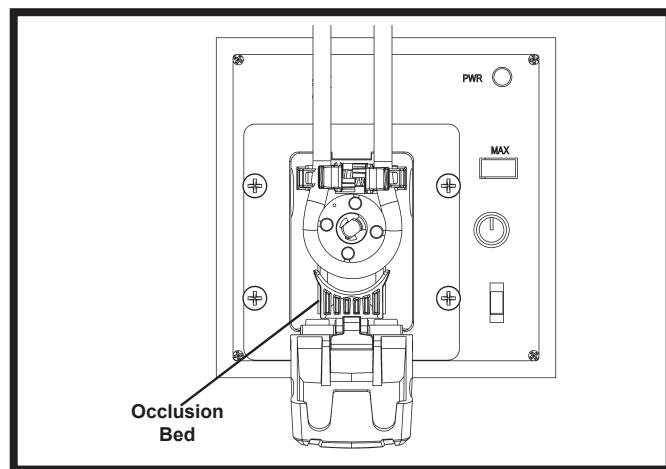

Figure 5. Closing Occlusion Bed
- Once the tubing is in place, close the Door and the Occlusion Bed will automatically align itself within the pump, Figure 5.